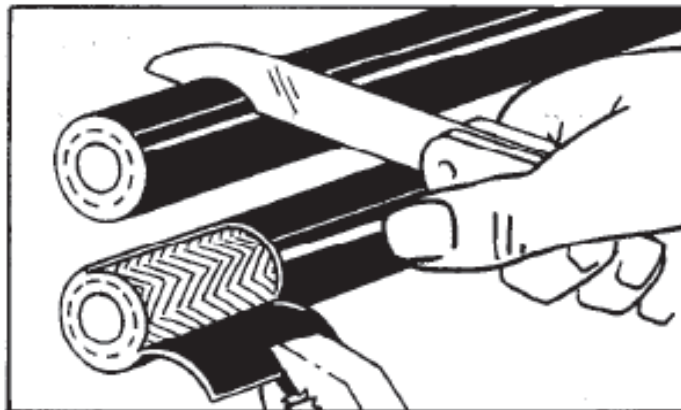

Figure 3 Cutting Hose Outer Cover
- h. Make a knife cut around the circumference of the hose (Figure 3) to the depth of the braid, at a distance from the end of the hose equal to the inside length of the ferrule.